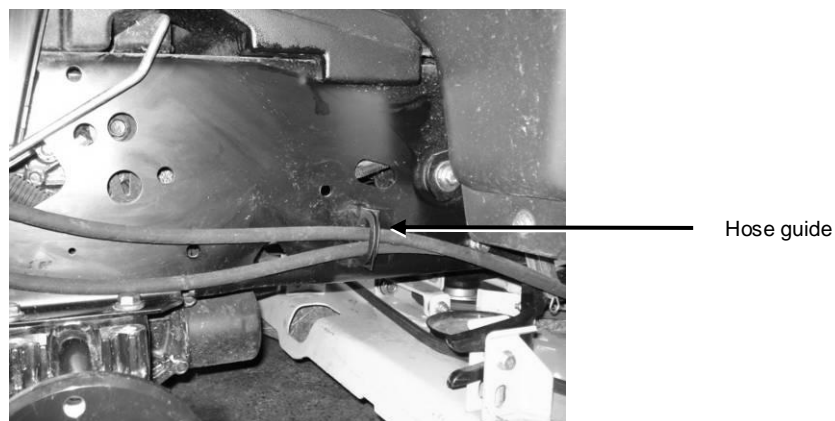

Fig. 8: Routing the hydraulic lines
8. Route the hydraulic lines through the hose guide (see Fig. 8).